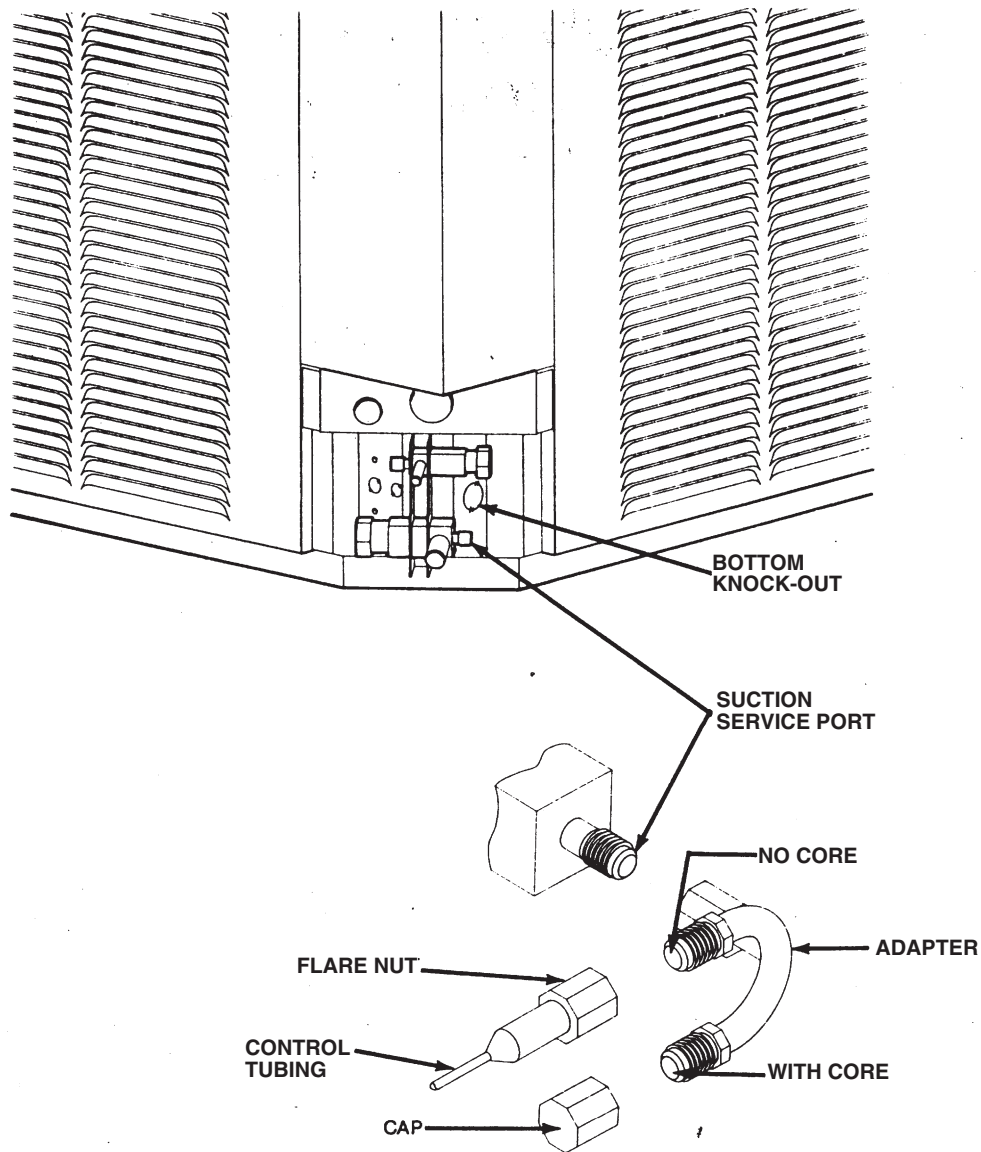

FIGURE 2. CUBE FITTING CONNECTIONS
4. Route control tubing with flare nut through the bottom knock-out of the valve mounting panel to the suction service port. See Figure 2. Install bushing in knock-out hole.